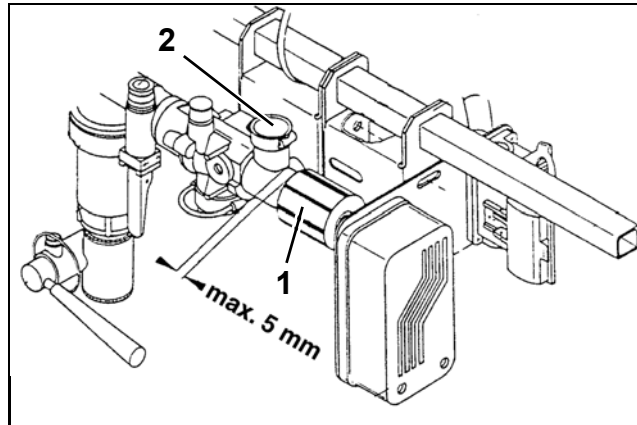

Fig. 32
- Turn the adjustment nut (Fig. 32/1) of the automatic metering unit until a spacing of 5 mm is reached between the edge of the adjustment nut and the return flow hose (Fig. 32/2). This way the pressure relief valve has been set to approx. 7 bar ( $P_{\max} = 10$  bar).